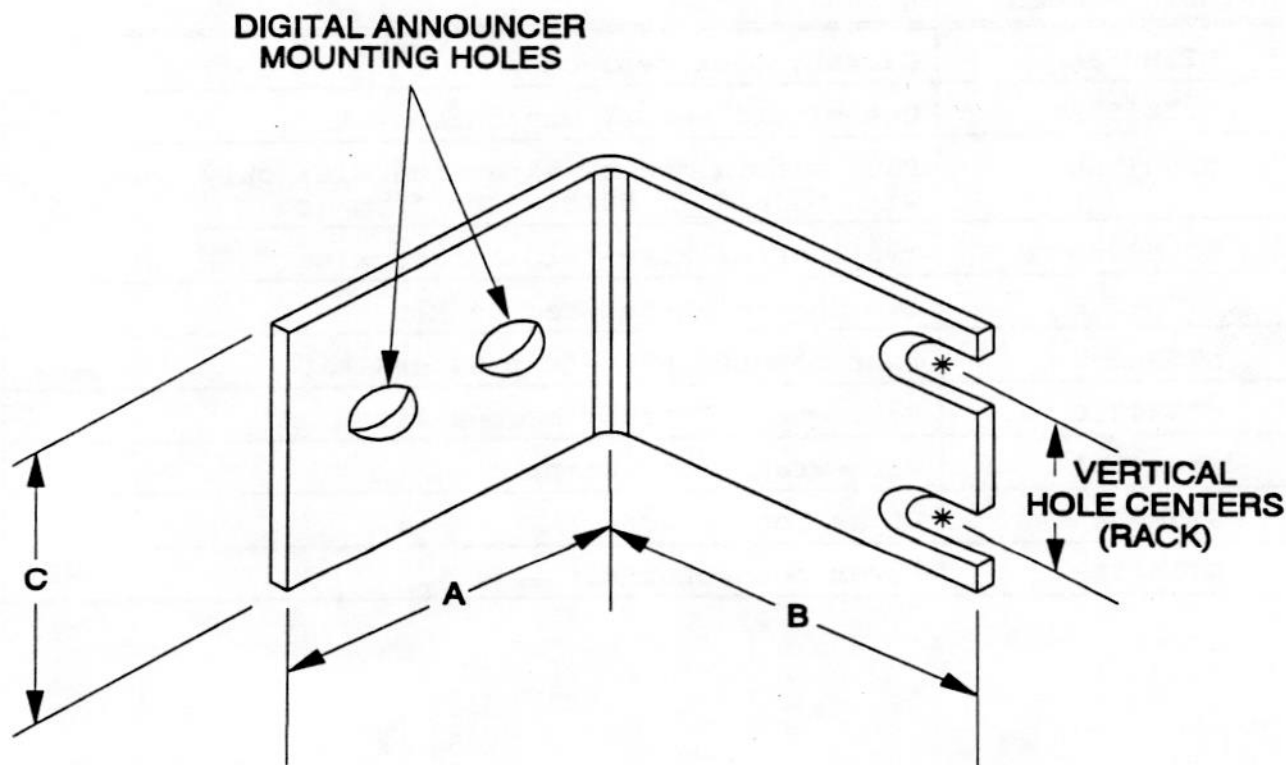

Fig. 3 - Mounting Brackets
5.07 Mounting Brackets to adapt the DA for use in standard equipment bays, enclosures, or relay racks are itemized in table 6 on page 20. Refer to figure 3 on page 20. Different sizes, shapes and finishes match the brackets to the equipment. A variety of equipment mounts, including Bell standard, RETMA, and EIA Brackets are available to support NT switching equipment such as the SL-1 and DMS product lines, and other manufacturer's equipment. Brackets are reversible and allow flush, protruding, or recessed mounting.